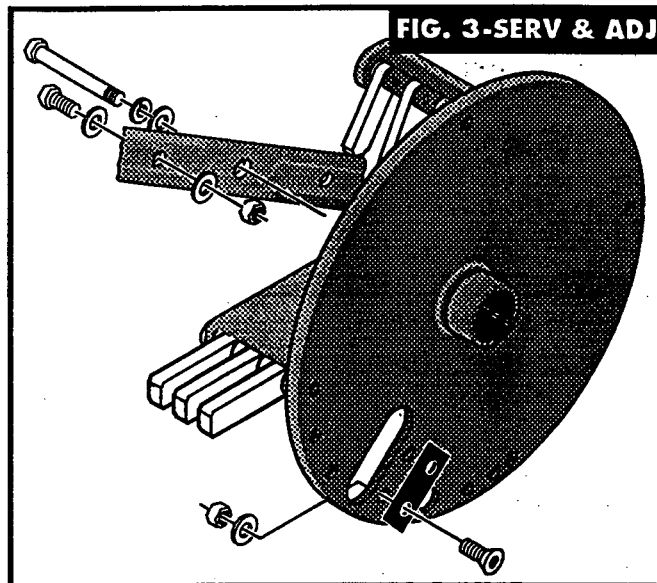

FIG. 3-SERV & ADJ
Remove the impeller assembly (See FIG. 3-SERV & ADJ) by removing the center bolt, lockwasher, and spring washer (NOTE: When reassembling, make certain the raised side of the spring washer faces the bolt head).
Using two (2) 1/2" wrenches, remove the shredding blade from impeller assembly by removing the blade retaining bolts, flatwashers and locknuts (SEE FIG. 3-SERV & ADJ).